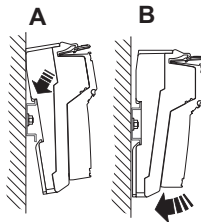

Figure 9-16 Snapping on the base
- Place the base onto the DIN rail from above (Figure 9-16, A) and press down firmly (B).